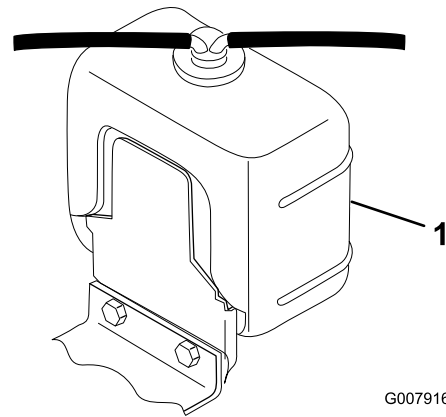

Figure 68
Carefully remove the radiator cap and the expansion tank cap (Figure 68).
2. Check the level of coolant in the radiator and in the expansion tank (Figure 68).